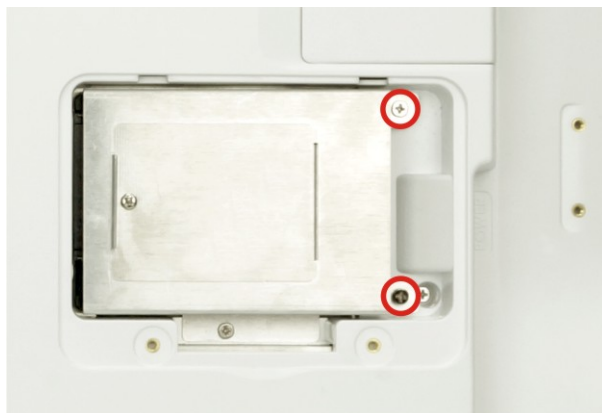

Figure 3-2: HDD Bracket Retention Screws
Step 3: Remove the two HDD bracket retention screws (**Figure 3-2**) and lift the HDD bracket off the panel PC.